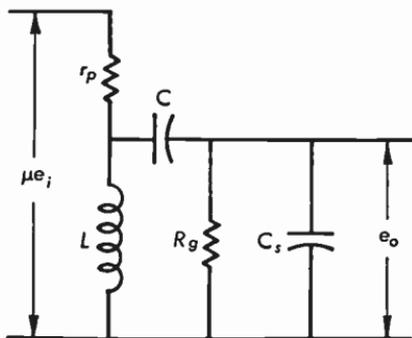

Fig. 5.26 Equivalent circuit of an impedance-coupled audio amplifier.
5.26 The circuit of Figure 5.26 represents the equivalent circuit of an impedance-coupled audio amplifier, where r_p is the plate resistance, L the coupling inductance, C the coupling capacitance, R_g the grid resistance, C_s the shunt capacitance (combined output capacitance of the first tube, input capacitance of the second tube and distributed capacitance of the winding). If $r_p = 100,000$ ohms, $L = 500$ henries, $C = 0.05$ microfarad, $R_g = 0.5$ megohm, and $C_s = 250$ micromicrofarads, calculate the voltage amplification at 1000 cycles and an amplification factor $\mu = 40$.